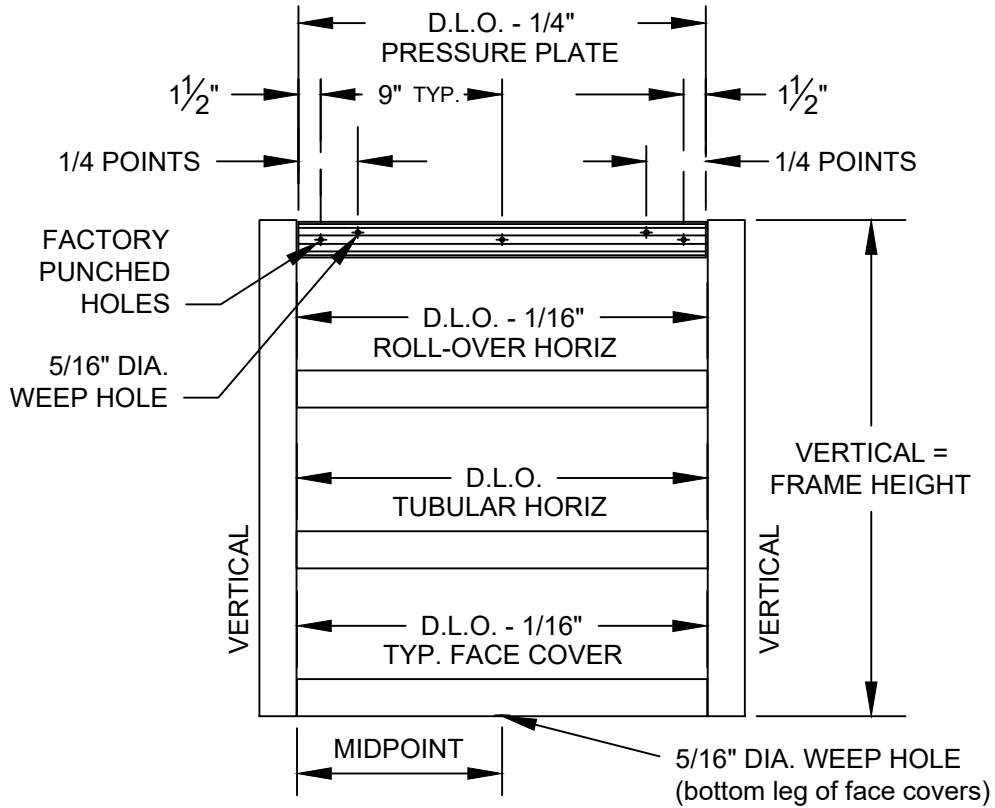
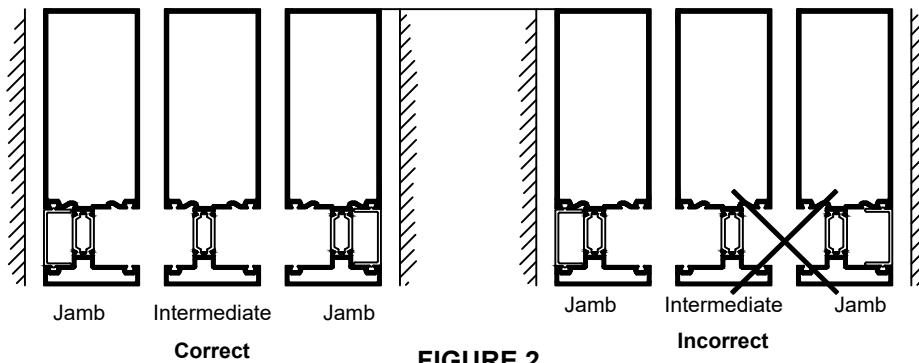

FIGURE 1
FIGURE 2
- 1.2 Cut material to size. **SEE FIGURE 1, page 9** for guide. NOTE: Layout vertical mullions so that two shallow pockets will not be adjacent to each other. **SEE FIGURE 2, page 9 for MULLION LAYOUT.**